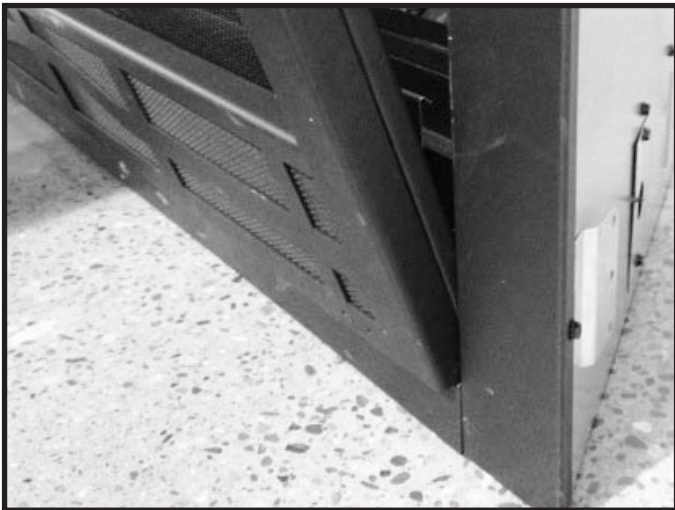

Figure 6. Hang Bottom of Front on Shoulder Bolts
2. The front will hang on the upper shoulder bolts previously installed and the two lower shoulder bolts. Hang the bottom of the front on the two lower shoulder bolts first. See Figure 6.